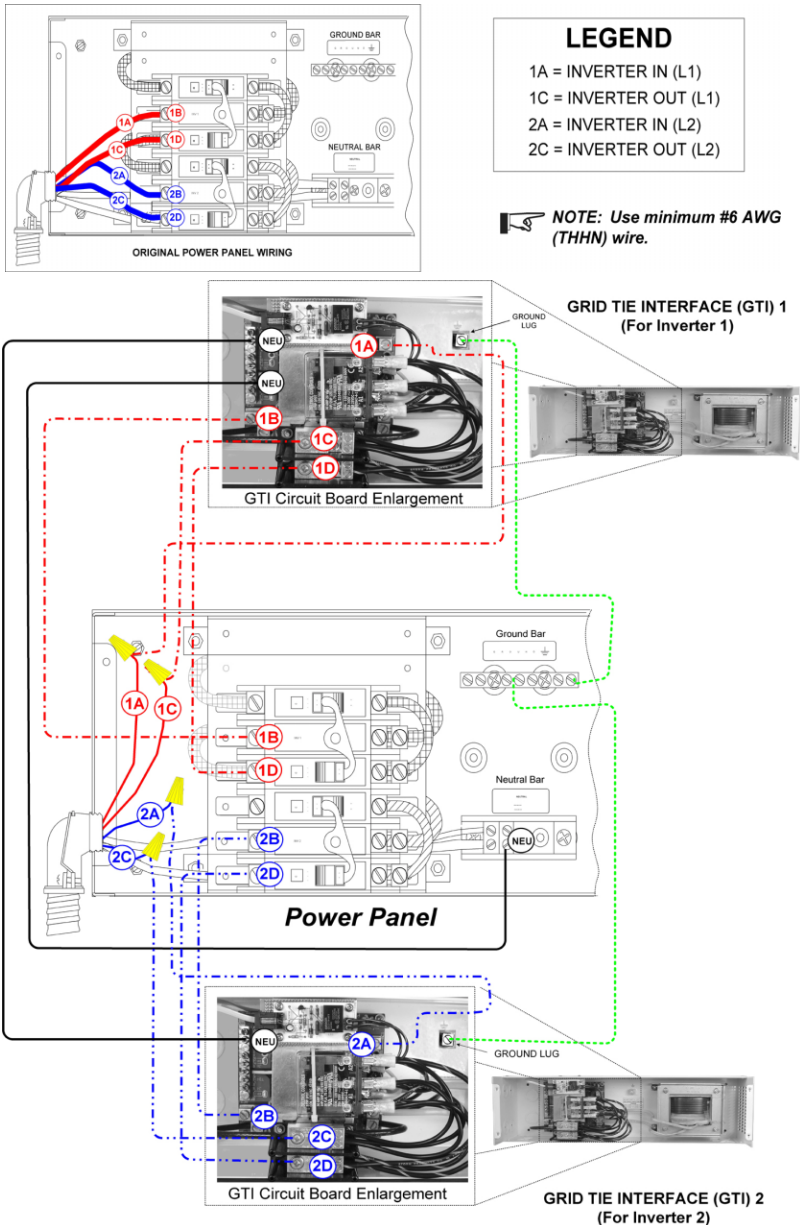

Figure 2-9
1. Inside the power panel, locate and label wires 1A and 1C from inverter-1 and wires 2A and 2C from inverter-2 as labeled in Figure 2-9.
2. Inside the power panel, locate and label terminals 1B, 1D, 2B and 2D as labeled in Figure 2-9.
3. Inside each GTI, locate and label the terminals 1B, 1D, 2B, and 2D as labeled in Figure 2-9.